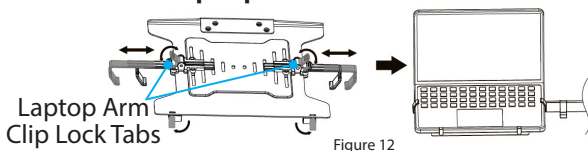

Figure 12
1. Unlock the **Laptop Arm Clip Lock Tabs**, located on the back of the **Laptop Mount Assembly**, and fully extend the **Laptop Arm Clips (D)**. (Figure 12)